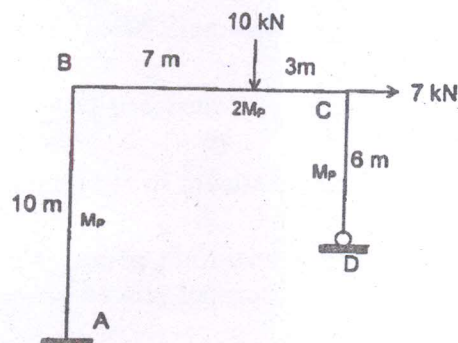

Fig. 6
18. Calculate the required value of M_p for the frame shown in figure 6. (16)